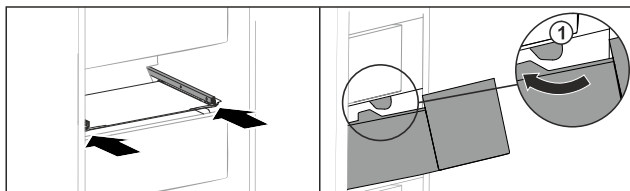

Fig. 218
- ▶ Vendoseni sirtarin mbi ndalues Fig. 218 (1).